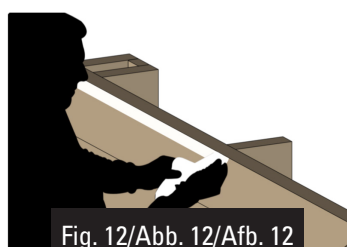

Fig. 12/Abb. 12/Afb. 12
- Stick the two-faced adhesive tape panel by panel, aligning it with the upper part of the top boards (figure 12).